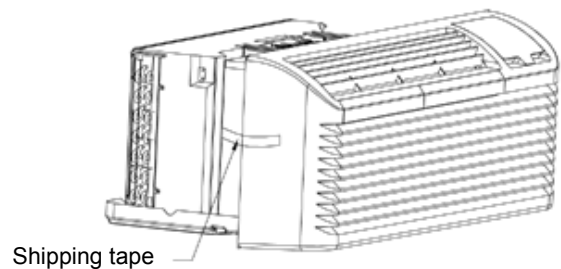
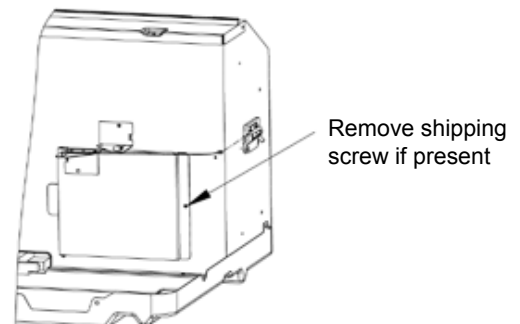

Fig. 9 Shipping Tape Location
Fig. 10 Shipping Screw Location
**NOTE:** The vent door shipping tape must be removed before using vent control lever. See Fig. 9 and Fig. 10.